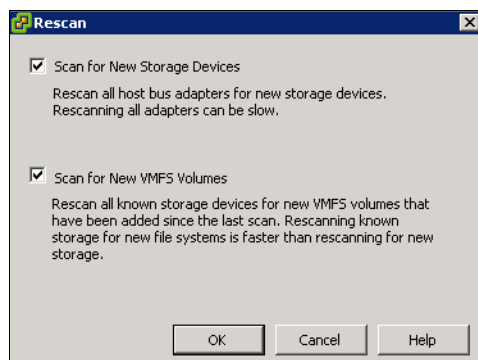

Figure 12-39 Rescan
- Click **Rescan All...** and click **OK** (Figure 12-39) to scan for new storage devices.